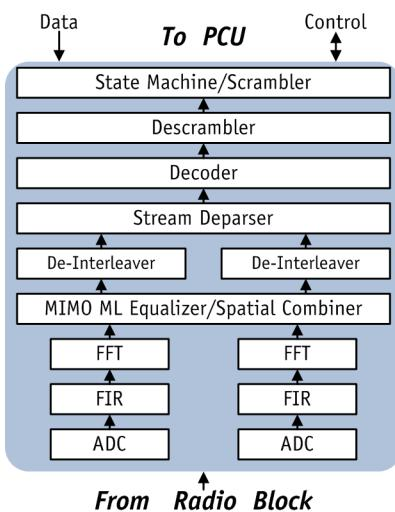

Figure 7-2. Digital PHY 802.11n Rx
Figure 7-2 shows the Rx path digital PHY 802.11n (MIMO mode) block diagram.
The receiver inverts the transmitter's steps, performing a fast Fourier transform (FFT), extracting bits from received constellations, de-interleaving, accounting for puncturing, decoding, and descrambling. The Rx block shows 2x2 MIMO configuration. Figure 7-2 shows a frequency-domain Maximum Likelihood (ML) equalizer handling degradation due to multi-path.